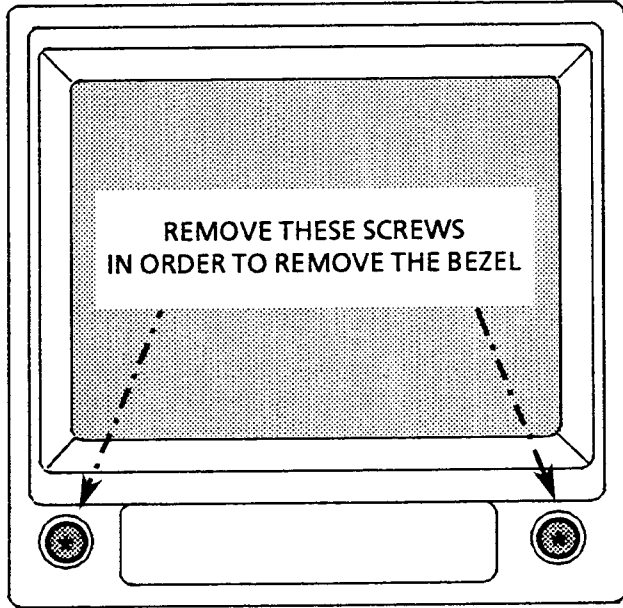

Fig. 6-7. Screws that need to be removed to remove the bezel.
1. Remove the two bezel screws. See Fig. 6-7.